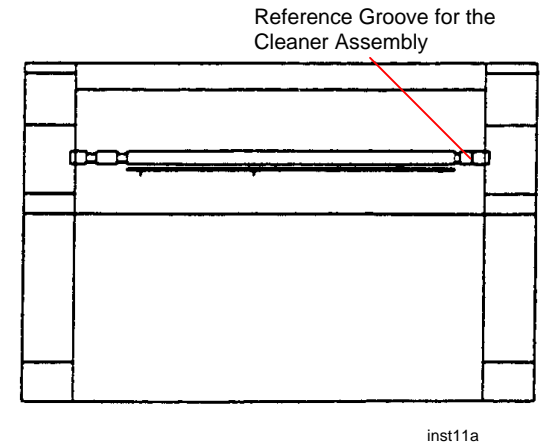

Figure 10. Reinstalling the Cleaner Assembly
2. (Figure 10): Reinstall the Cleaner Assembly, aligning the lower part of the assembly into the grooves of the Stripper Finger Assembly. Lock it into position (both sides).